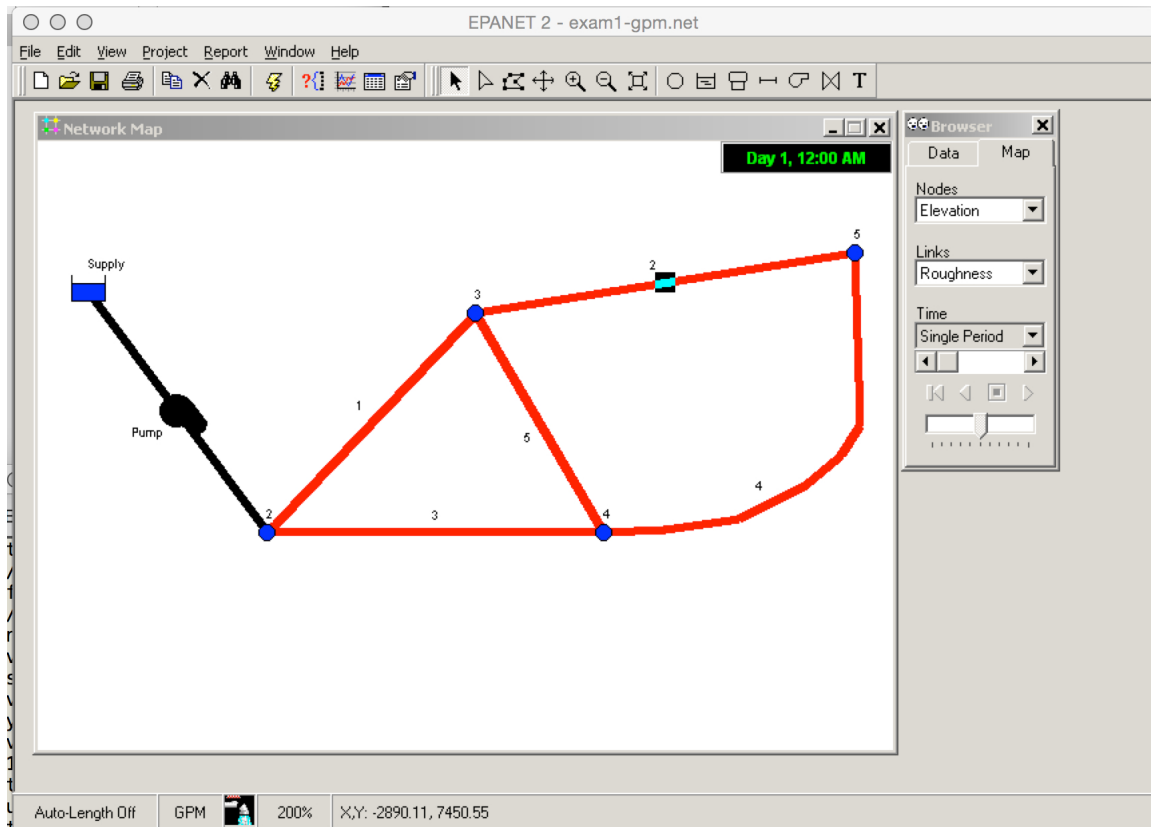

Figure 3: EPA-NET system topology.
- (A) 0.24 cms (cubic meters per second)
- (B) 0.31 cms
- (C) 3.52 cms
- (D) 3.91 cms
- (E) 4.41 cms
- (F) 4.45 cms
- (G) 5.57 cms
- (H) 6.66 cms
- (I) 7.38 cms
- (J) 9.31 cms
7. (46 pts.) An EPA-NET simulation model for a reservoir-pump-network was constructed and operated for four (4) different operational scenarios. Figure 3 is a depiction of the network. The numbers next to the nodes are Node_ID values in the reports that follow, and the numbers next to the pipes are the Link_ID values. The network is supplied from a reservoir through a booster pump, both are depicted on Figure 3.